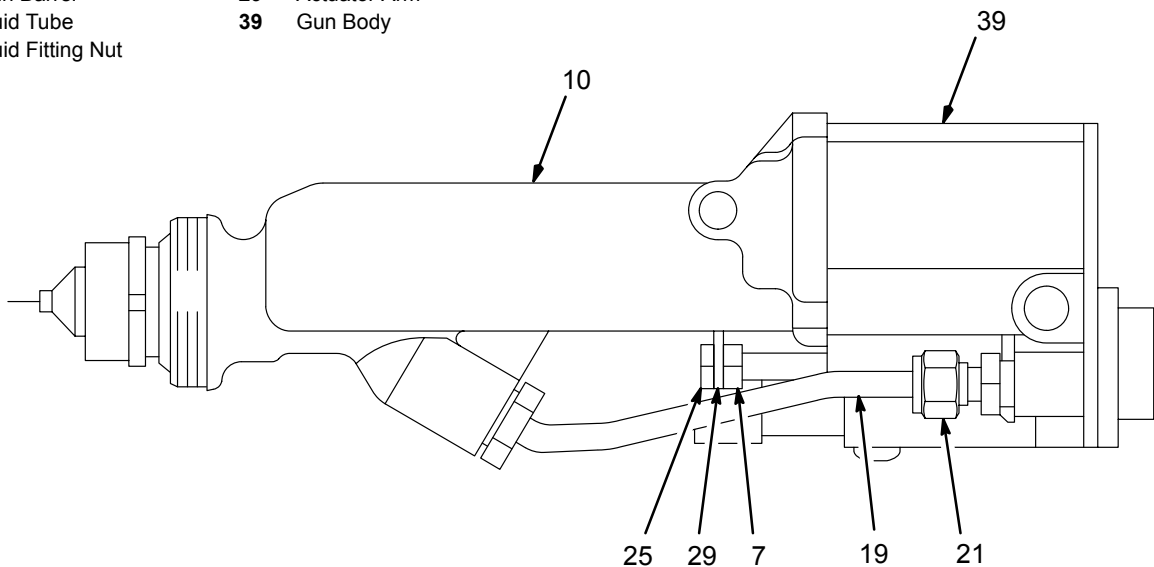

Fig 19
1. Carefully loosen the fluid fitting nut (21). Pull the tube (19) out of the fitting. Make sure both ferrules and the nut stay with the tube. See Fig 19 .
2. Remove the jam nut (25) and actuator arm (29).